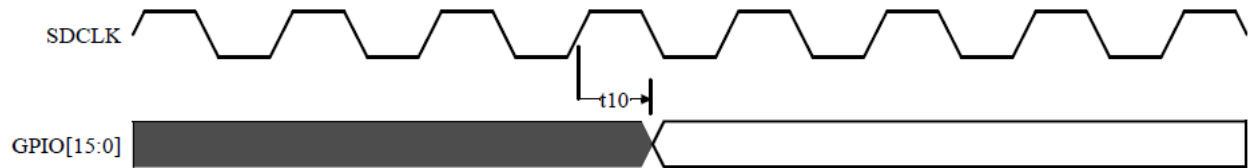

Figure 4:4: General Purpose I/O Timing Diagram
1. All outputs are measured using the load conditions shown in Figure 4:14